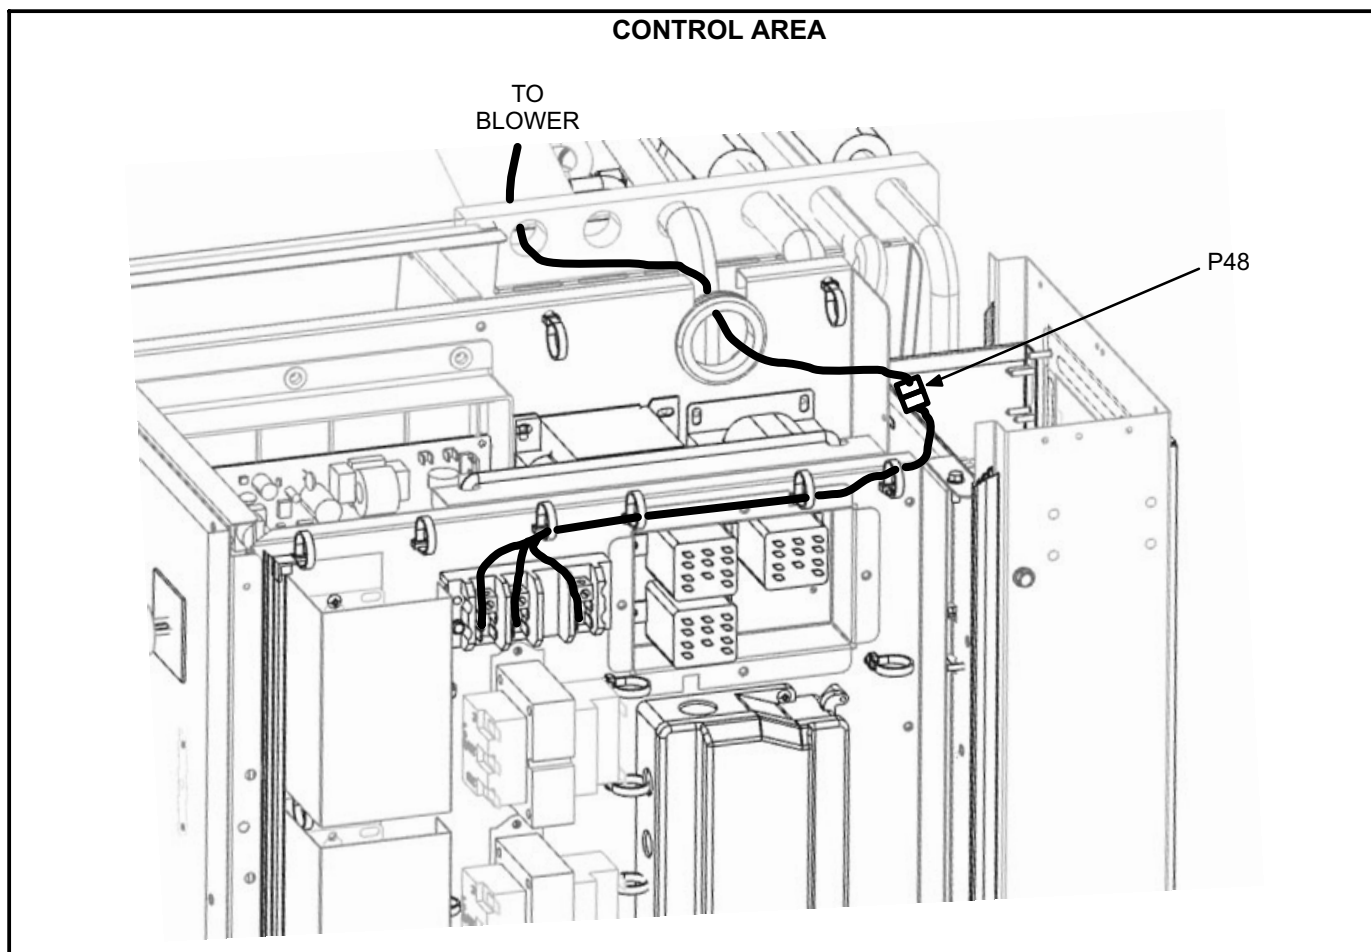

FIGURE 3
- 4- Disconnect P48 in the controls area. See figure 3.